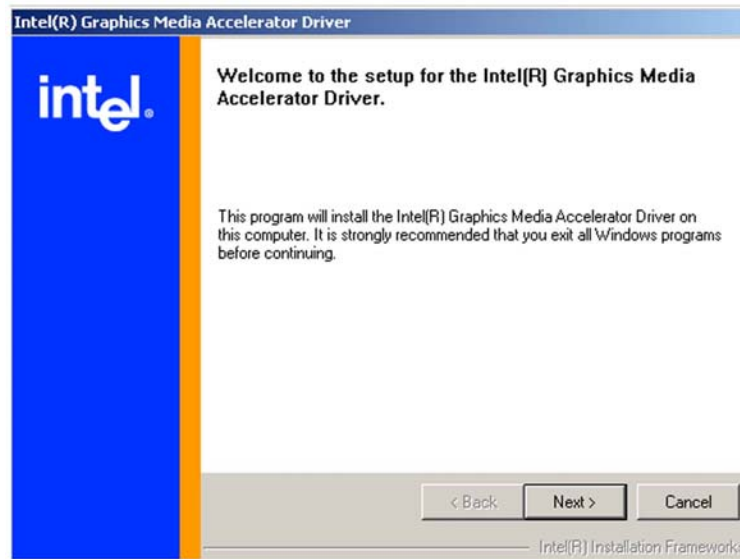

Figure 6-8: VGA Driver Installation Welcome Screen
Step 5: A Welcome screen shown in **Figure 6-8** appears. Click **NEXT** to continue the installation.